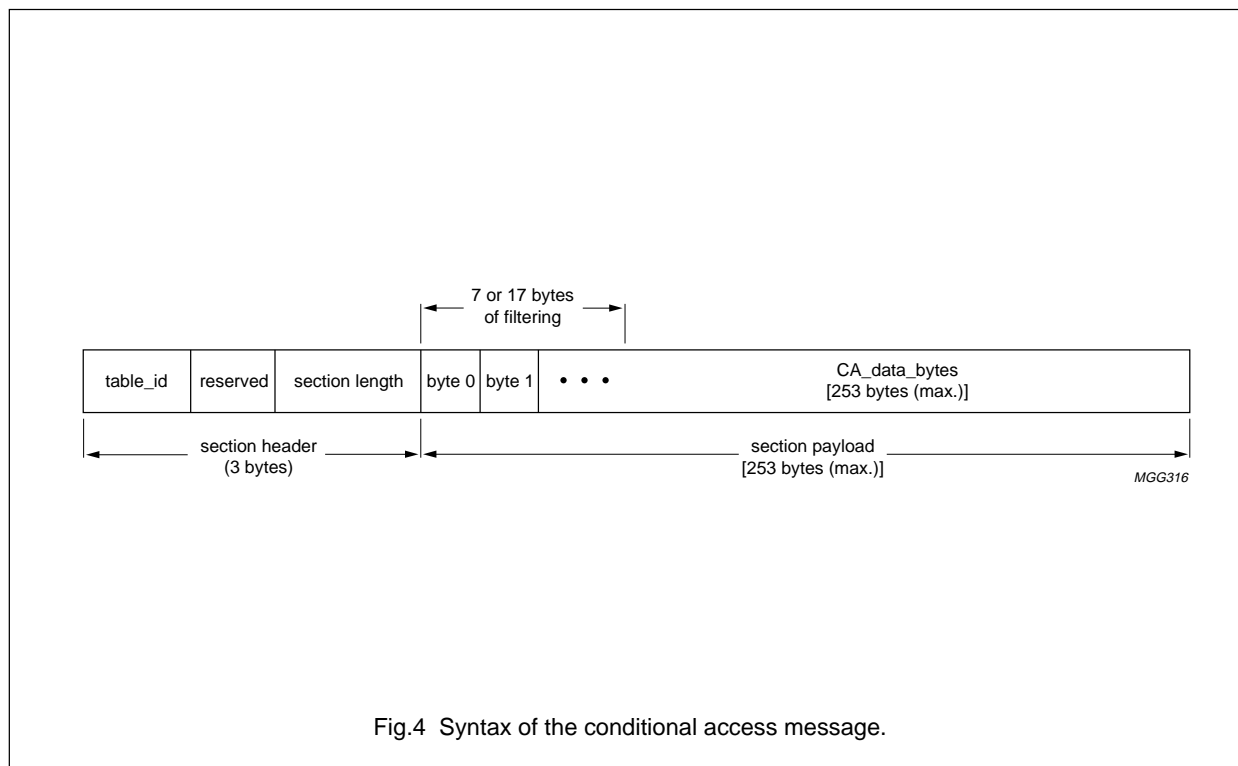

Fig.4 Syntax of the conditional access message.
- A Control Word (CW) bank containing 6 CW pairs and a default CW. A CW pair consists of 2 descrambler control words (odd and even), each word with a length of 64 bits.
- A microcontroller interface providing protocol handling for the memory mapped I/O control bus (Philips 90CE201 compatible). This module contains an interrupt request handler and data filters for the retrieval of Conditional Access (CA) information:
- The CA filters select data on the basis of PIDs, and a combination of MPEG-2 section addressing fields. Selected CA data is stored in eighteen 256 byte (constrained random access) buffers which can be read by the microcontroller. The CA message section has a maximum length of 256 bytes. It consists of a 3 bytes long header with Table\_id and section\_length data. The remaining part of the CA message are the CA\_data\_bytes (see Fig.4). If a section is longer than 256 bytes, the data capture is stopped (with an interrupt to the microcontroller) after 256 bytes are in the buffer and the 'section\_to\_long' bit is set. The filters are capable of monitoring 18 CA streams (containing EMM and ECM data) simultaneously. Two different lengths are used for address filtering:
**Table 1** Explanation of Fig.4